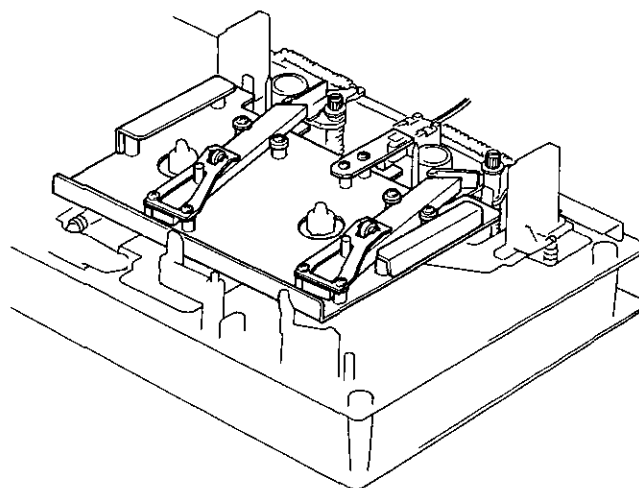

Fig. 4.9
Remove Head Mount Base Ass'y referring to item 2.29. Refer to Figs. 4.9 and 4.10.
(1) Supply Tape Guide Height Adjustment
(2) Take-up Tape Guide Height Adjustment